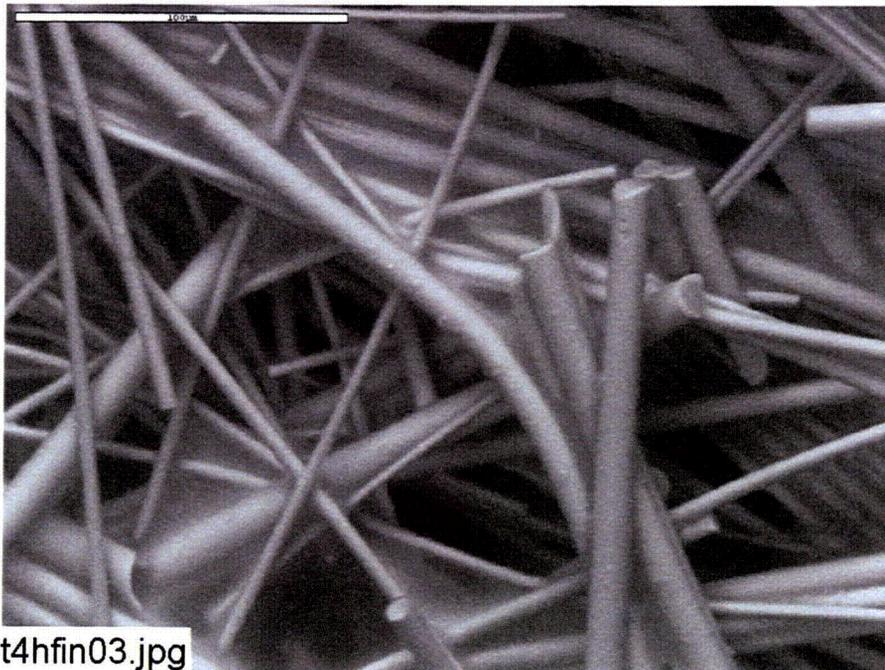

Figure C4-8. Environmental SEM image magnified 500 times for a Test #4, Day-30 interior high-flow fiberglass sample. (t4hfin03.jpg)
- Figure C4-8. Environmental SEM image magnified 500 times for a Test #4, Day-30 interior high-flow fiberglass sample. (t4hfin03.jpg)..... C4-7